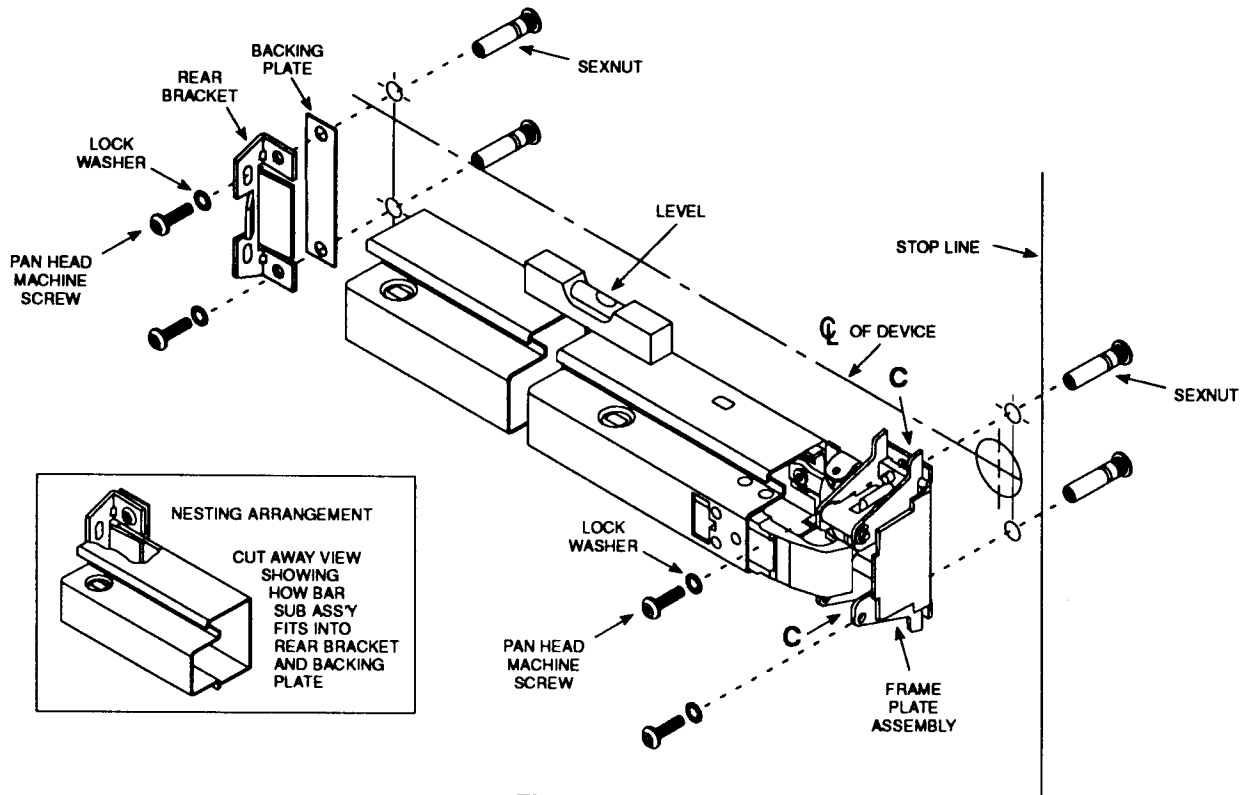

Figure 10
- A. If trim is used install trim first, then install device with two pan head machine screws, two lock washers and two sexnuts (or throughbolting screws packed with trim) in latch assembly holes marked C (Figure 10). Sexnuts for holes marked C are not required and cannot be used with throughbolted escutcheon and rose trims. Use level as shown to ensure device is level. Use rear bracket to spot and drill  $\frac{1}{4}$ " (6 mm) holes through door. Enlarge holes to  $\frac{3}{8}$ " (10 mm) from opposite side of door to clear for sexnuts and bolts. Attach rear bracket and backing plate to door using two pan head machine screws, two lock washers and two sexnuts. Tighten all pushbar screws securely.